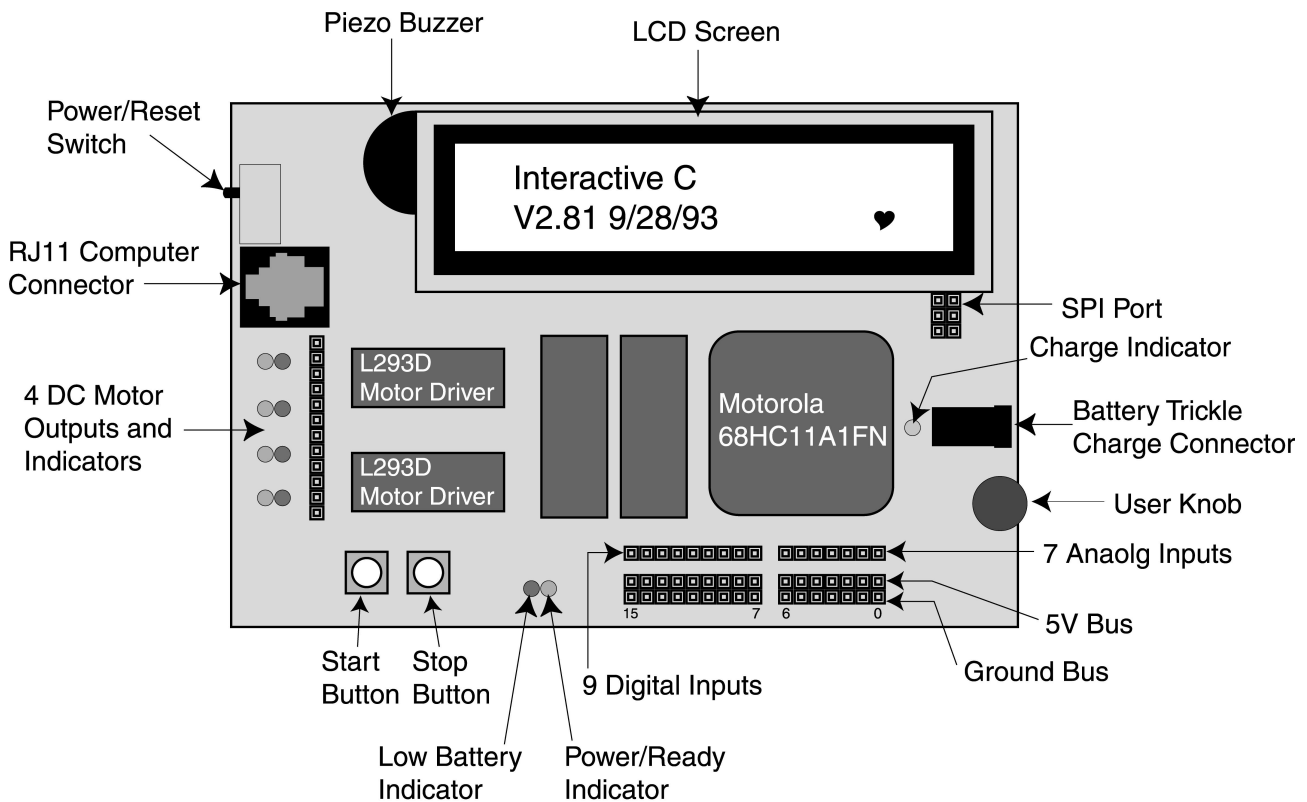

Figure 1. Handy Board labeled features.
The Handy Board is a small experimental board developed by Fred Martin of the MIT Media Laboratories. The main features of the Handy Board are a Motorola 68HC11 microprocessor chip, four DC motor outputs, seven 8-bit analog inputs, nine digital inputs, and a 16x2 LCD screen, as well as other features. It is easily programmable using Interactive C (a C programming language) developed by Randy Sargent of MIT. A diagram of the Handy Board with labeled features is shown below in Figure 1.
- a) One end of the RJ11 modular cable (looks like a telephone cable) should be plugged into the computer connector port on the Handy Board (see Figure 1).
2. Insert the plug-in transformer into a wall outlet. Insert the other end into the receptacle on the Handy Board battery trickle-charge connector (see Figure 1). This step will keep the batteries on the Handy Board charged while you are working on it, but is not necessary if the batteries are fully charged.
Now type **beep();<enter>**. You should hear a short tone coming from the piezo buzzer (see Figure 1). Try typing **tone(800.,5.);<enter>**. You should hear a tone at 800 Hz for 5 seconds. Other commands are included at the end of this lab handout. Explore them later.
Turns on motor *port m* at power *level p*. There are four motor ports on the Handy Board, labeled Motor-0, Motor-1, Motor-2, Motor-3 (see Figures 1 and 3 for location). The power level ranges from 100 for full on forward to -100 for full power in reverse. Although the range of power levels goes from -100 to 100 in increments of 1, there are actually only 15 motor speeds (See Table 2 below).
Refer to Figure 1 for the location of the analog and digital ports. Note that these ports are the top of the three strips in that area, and are numbered from right to left. The bottom strip is ground, and the middle strip is a +5 supply voltage that can be used to power sensors. The top strip is for the sensor signal (this is the value that will be read by the **analog** and **digital** functions).
A function that returns the position of the user knob (see Figure 1) as a value between 0 and 255. The knob is a potentiometer whose wiper is connected to an 8-bit analog-to-digital converter.
Returns the value of the button labeled "Start" (see Figure 1). Returns 1 if pressed and 0 if released.
Returns the value of the button labeled "Stop" (see Figure 1). Returns 1 if pressed and 0 if released.